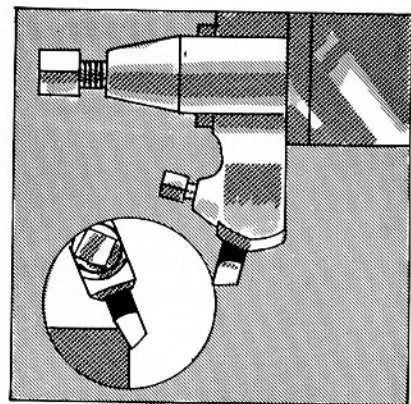

FIG. 384
1. Select a tool-holder that can be set with the cutting edge of the tool behind the point of support as, for example, the square nose tool shown in Figure 382. For a side-cutting tool, use an ordinary holder (Fig. 384).
When a tool is set with the cutting edge behind the point of support, the tool swings away from the work, the pressure is released, and the cutting action is smoother. However, when the side of the tool is cutting (Fig. 384), the tendency of the tool is to spring sideways and, although the tool is set ahead of the point of support, there is not the same tendency to dig in as with the square-nose tool.